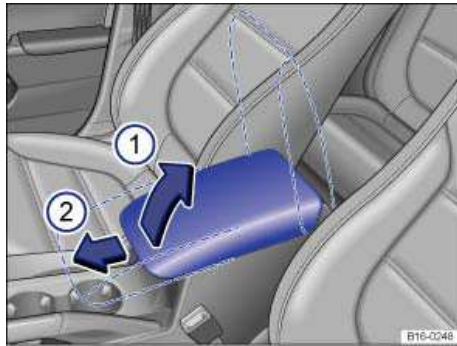

Fig. 40 Front center armrest.
To *raise* the center armrest, push the release button ⇒ fig. 40, pull the armrest up, and latch upward in the direction of the arrow (1).